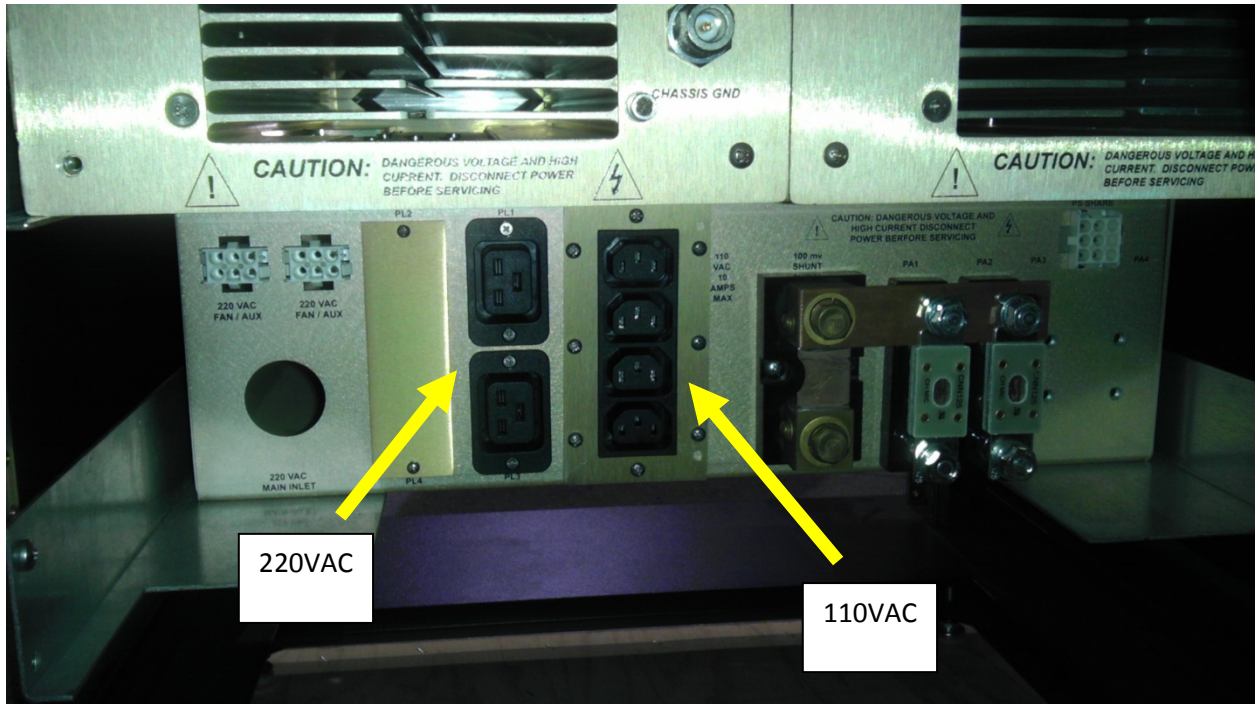
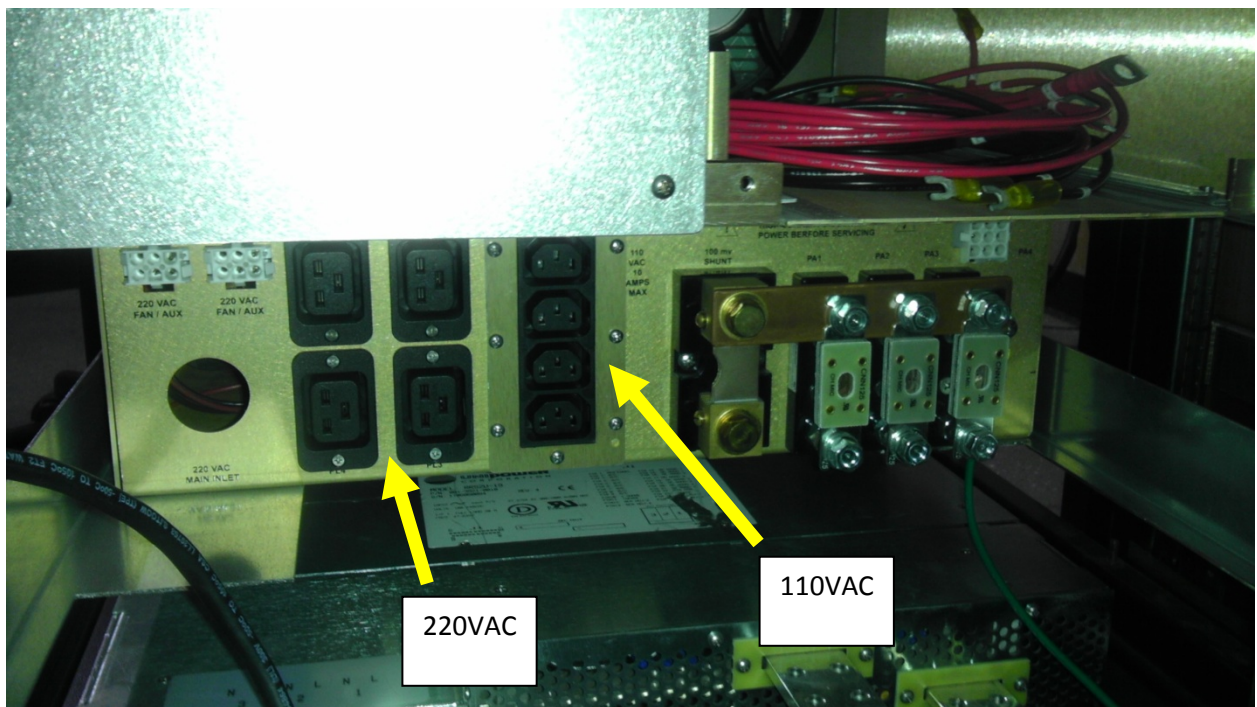

Fig. 1 – ACDIS1 in a DTXPRO-800U transmitter.
Fig. 2 – ACDIS2 in a DTXPRO-1.2KU transmitter.
4. Disconnect the fan power cable from the rear IEC AC inlet of the MFA2PA frame, then disconnect the other end of this cable from the ACDIS1 (Fig. 1) or ACDIS2 (Fig. 2) AC power distribution frame. (800 watt transmitters will have an ACDIS1, and 1.2kW transmitters will have an ACDIS2, but the procedure is the same for both.)